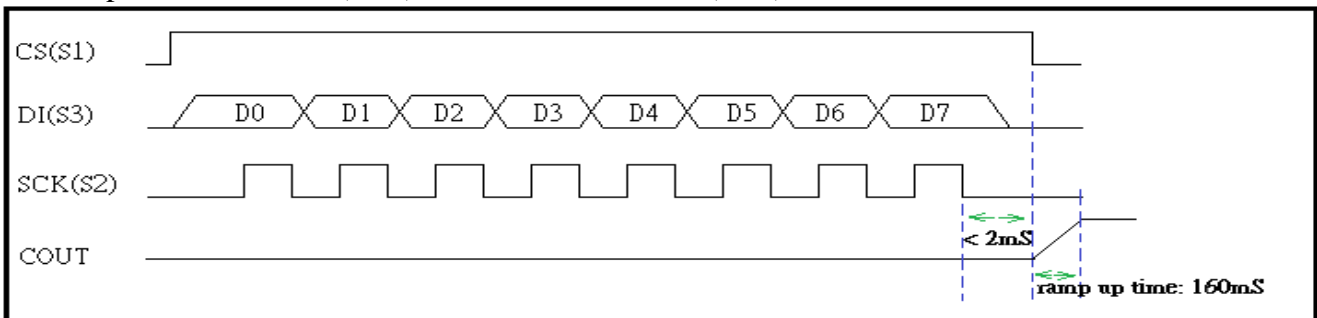
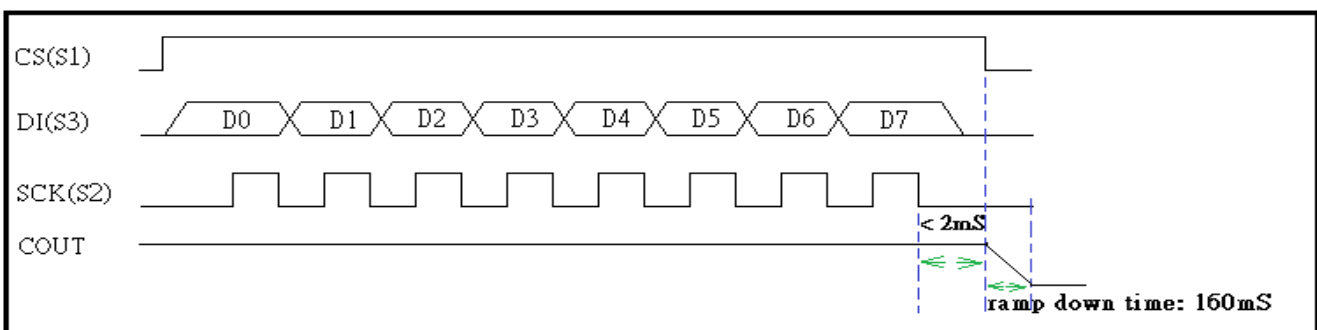

Fig. 12 Power-Up command timing
Fig. 13 Power-Down command timing
- (3). Power up with RAMP-UP(PU2) or without RAMP-UP(PU1) :
- a. Command timing reference Fig.12 Power-up Command timing.
- (4).Power down with RAMP-DOWN(PD2) or without RAMP-DOWN (PD1) :
- a. Command timing reference Fig.13 Power-down Command timing.